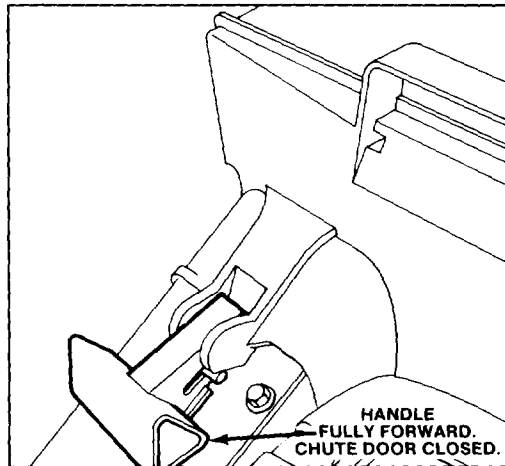

Figure 6
**MULCH** — In summer, when grass grows slower and is drier, mulch by closing chute door (Fig. 6). For convenience and protection, keep grass bag on mower.
2. Assure chute door handle is fully forward and pin is engaged in catch. (Fig. 6).
5. **EMPTYING BAG** — Stop motor and wait for all parts to stop. Move chute door handle forward to engage the locking pin with catch (Fig. 6). Grasp bag handle and rear of bag and lift bag off mower. Gradually tip bag forward to empty clippings.